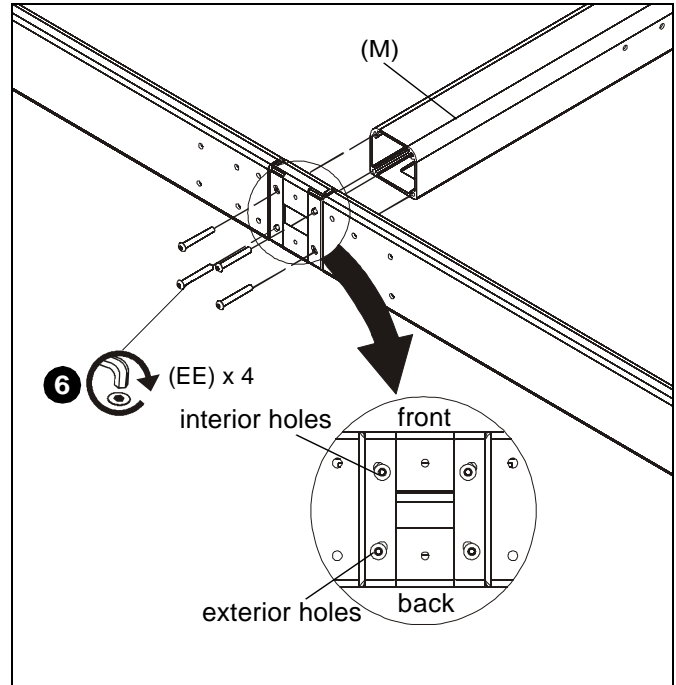

Figure 5
- While holding extender blocks in position, install four 5/16-18 x 2 1/2" button head cap screws (EE) through extender brackets (W), extender blocks (U) and into remaining cart array column (M). (See Figure 5)
IMPORTANT ! : Be sure to use interior holes when connecting to the front of the column and exterior holes when connecting to back of column. (See Inset on Figure 5)